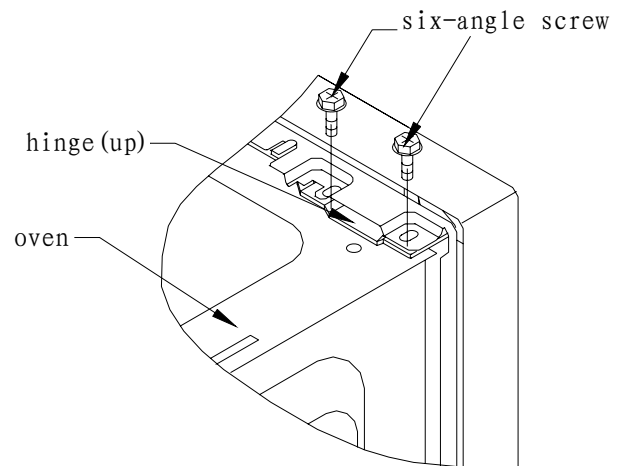

Fig. 4-2
9. Apart the doorframe from the doorplate (FIG.4-2).